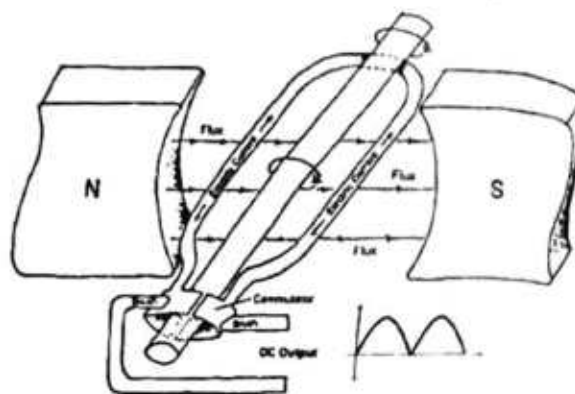

Figure 4 - Simplified DC Generator
The effect of commutation is that the alternating current in the rotating loop is picked off the commutator as voltage of single polarity, i.e., Direct Current (DC). Figure 4 illustrates a basic commutator and its effect on generator output.
DC Generator Output Ripple - The single rotor loop DC generator in Figure 4 is for illustration only. A single rotor loop would produce an output that looks like the top signal in Figure 5. In practice, the rotor will consist of many windings to produce a cleaner DC signal with greater voltage potential and less ripple. The bottom signal of Figure 5 illustrates the effect of adding armature coils.